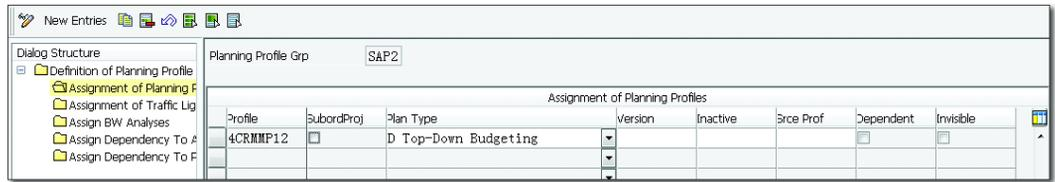

Figure 5.12 Assignment of the Planning Profile
5. Click on ASSIGNMENT OF PLANNING PROFILES to go to the screen shown in Figure 5.12. Take note of the following fields: